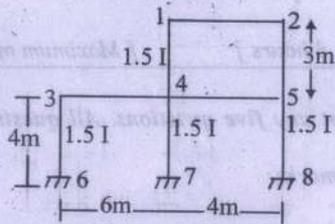

Fig. 1.
2. (a) Determine the global stiffness matrix for the structure in Fig. 1. Neglect axial deformations in